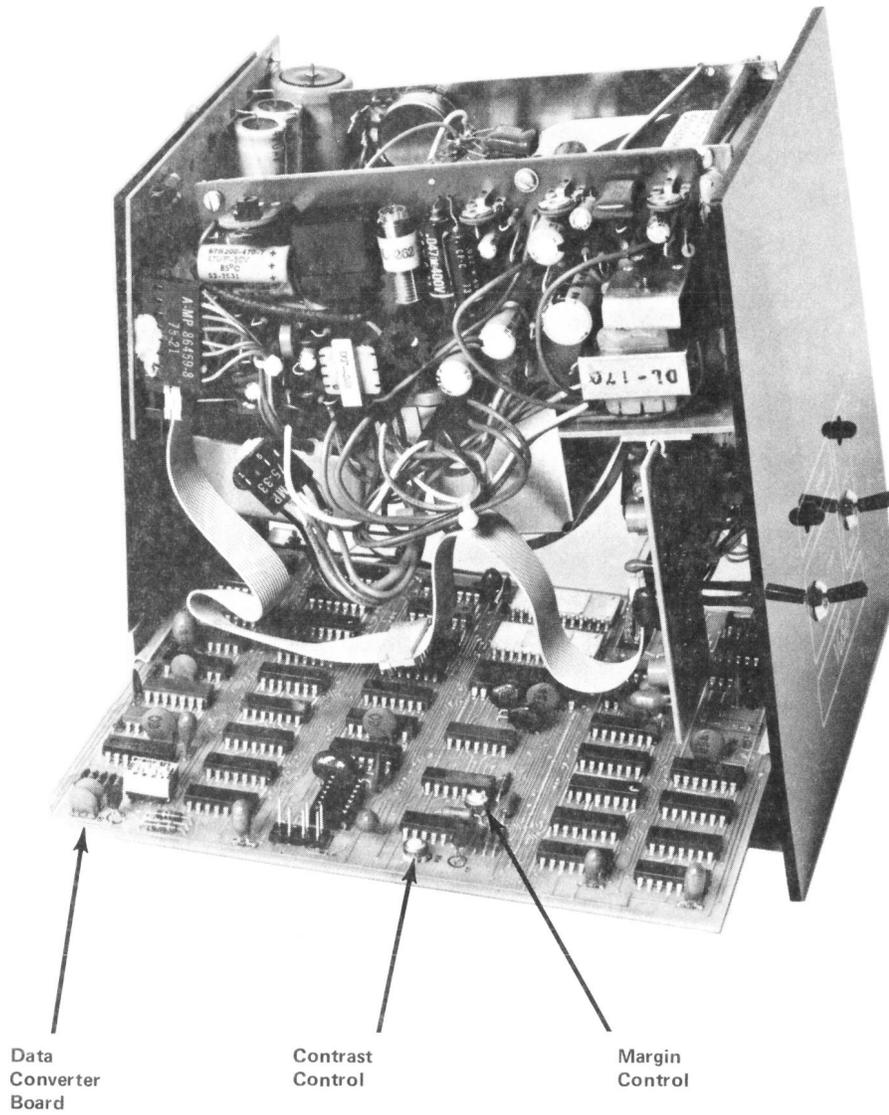

Figure 25, Removal of Data Converter Board
- e) The data converter board can be removed by sliding it out of the card guide from the left side of the terminal (See Figure 25). The opposite side is restricted for data converter removal because of the wiring between subassemblies.
- a) Slide the data converter board into the card guides from the left side of the terminal. (See Figure 25)
- c) Connect J3B to the data converter board. (See Figure 25)
Margin Control Adjustment (Figure 25)
- d) If data is correct and can be centered by using the margin control (See Figure 25) or if the symptoms are now different, the original data converter board has malfunctioned. Retest terminal per section 4.04.